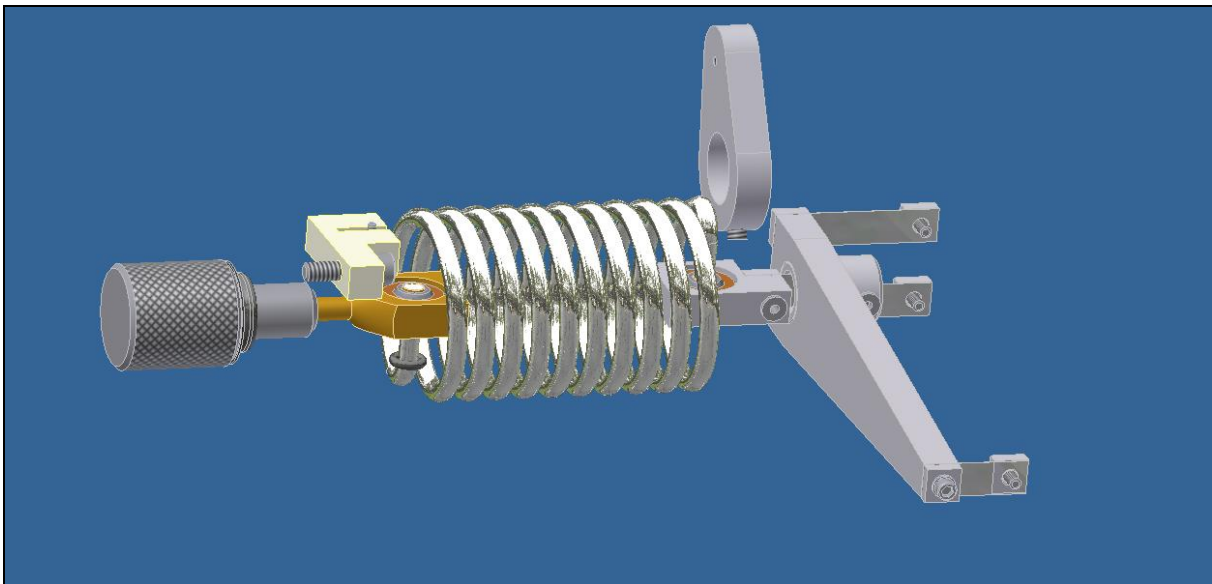

Figure 14. Spring Assembly Parts: Difference between GS-13LV and GS-13LH.
- (h) *Remove mechanisms associated with vertical offload springs.* Refer to Figure 14 for pictorial view of difference between GS-13LV and GS-13LH.
- *list for approval.* See Table 2 for a list of parts shown in Figure 14.